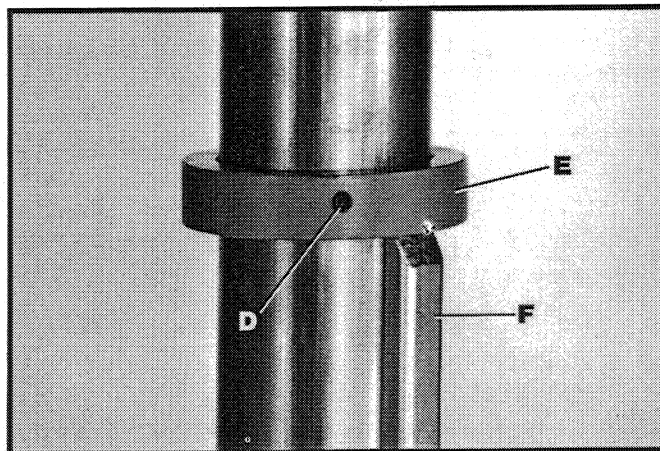

Fig. 9
5. Re-assemble ring (E) Fig. 9, which was removed in **STEP 1**, to column. **IMPORTANT:** Bottom of ring (E) **MUST NOT** be pushed all the way down onto top of raising rack (F). **MAKE SURE** top of raising rack (F) is under bottom of ring (E) and that there is enough clearance to allow rack (F) to rotate around the column. **THEN TIGHTEN SET SCREW (D) BEING CAREFUL NOT TO OVERTIGHTEN.**